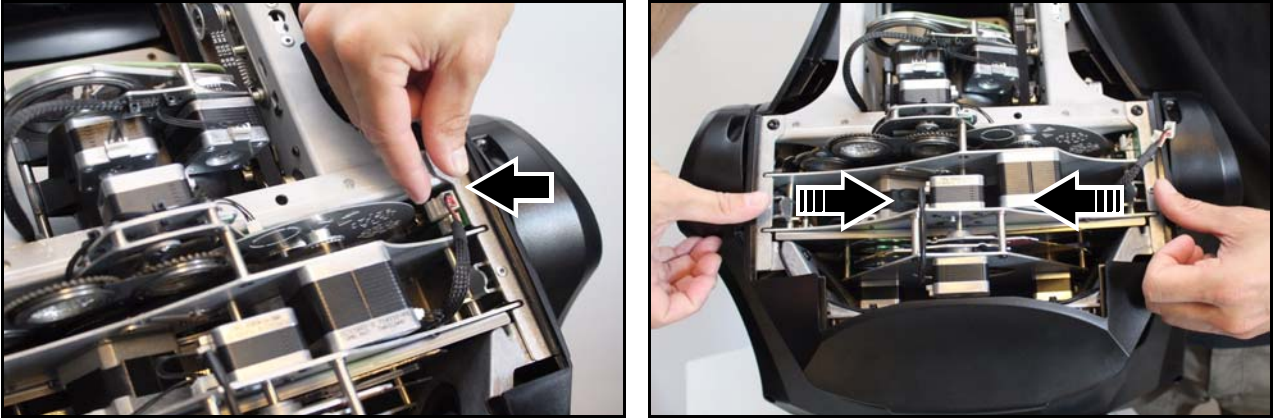

Figure 10: Releasing the multi-module
2. See Figure 10. Disconnect the two plugs (arrowed) on the right-hand side of the head, then push the two multi-module latches in towards the centre of the multi-module.